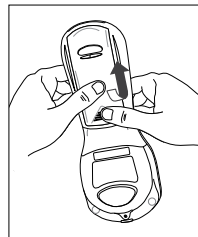

Figure 1
3. Press down the cover at the finger grip area firmly. Push to slide the cover off, as indicated by the arrow. (Fig. 1)